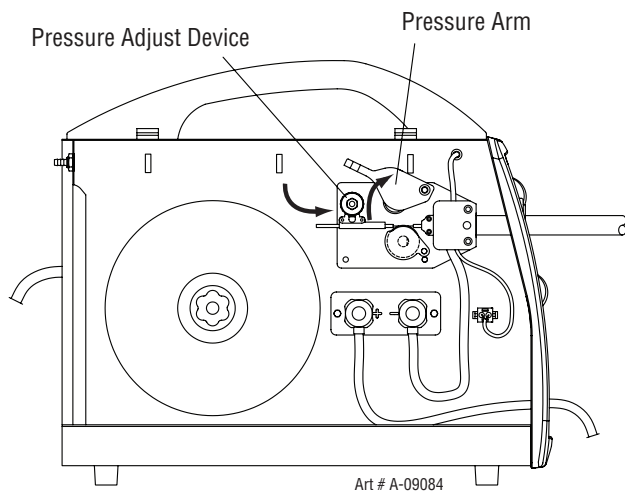

Figure 3-9: Opening Pressure Arm
1. Loosen Pressure Adjust Device (Fig. 3-9).
2. Open Pressure Adjust Device (Fig. 3-9).
3. Open Pressure Arm (Fig. 3-9).